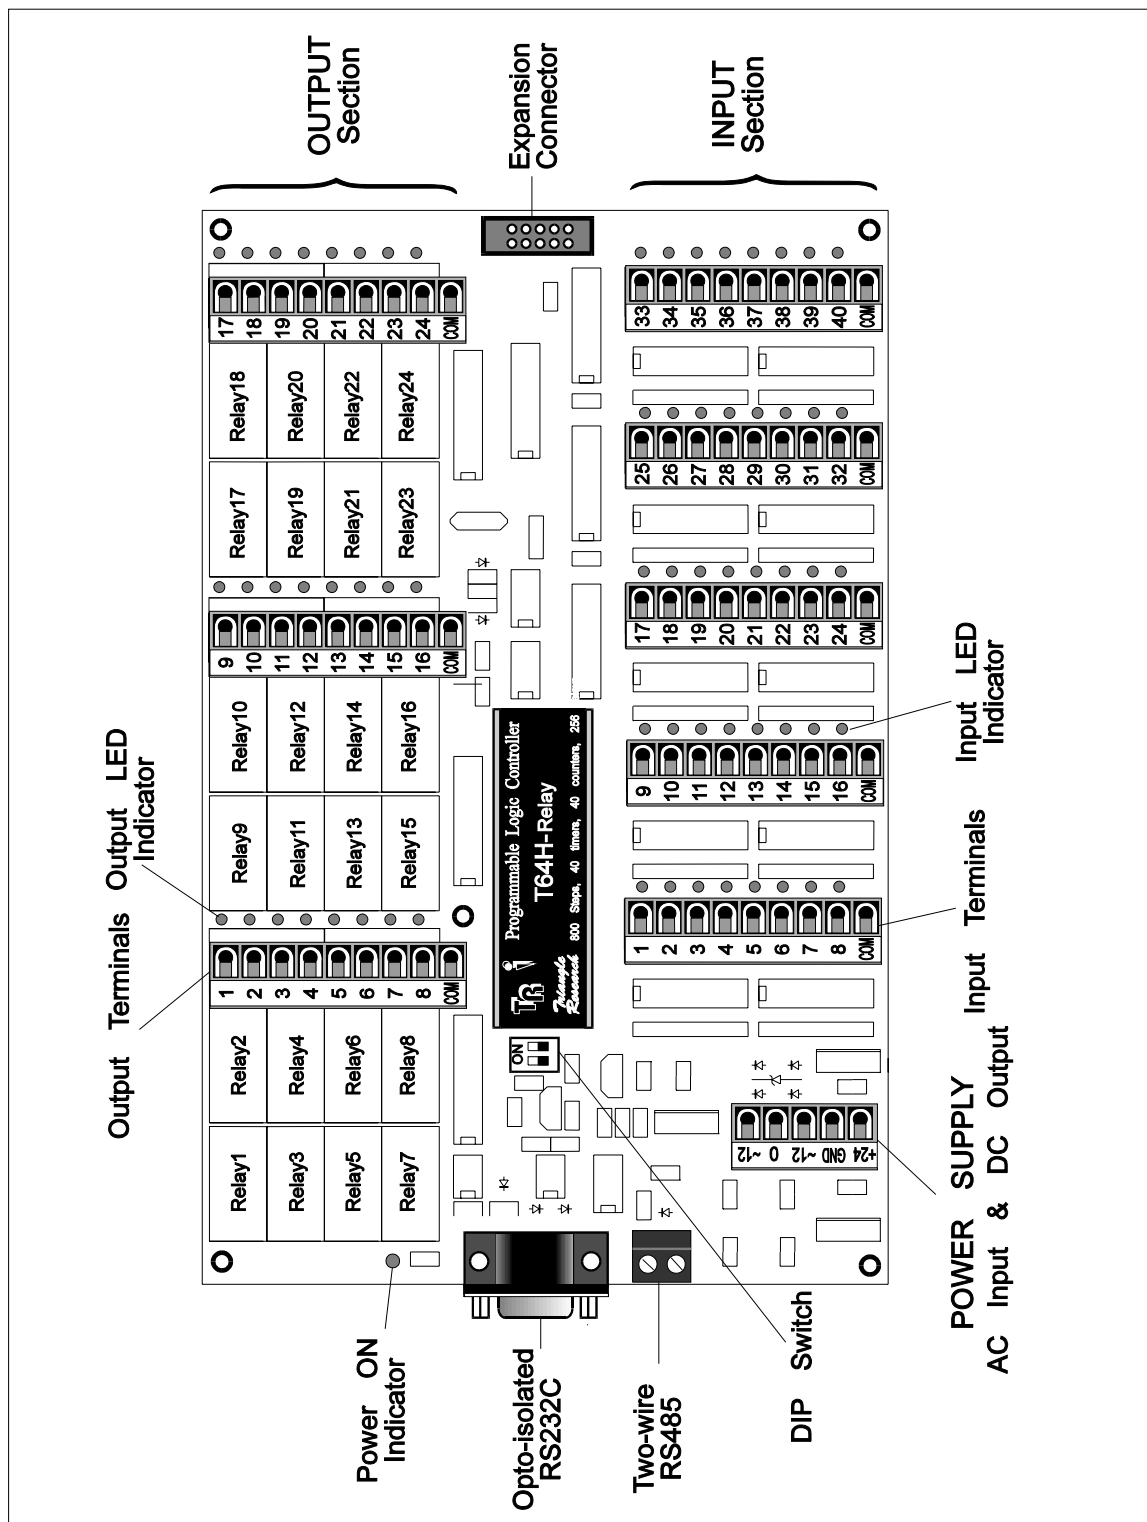

Figure 3 - T64H-Relay Programmable Controller
The highly compact T64H-RELAY controller can be easily installed in many plastic or metal enclosures. There are 5 mounting holes on the controller board (see Figure 3 on next page), and you only need to use 5 PCB standoffs to support the controller and to fasten it to a console box.
- 3. Input Units** - There are a total of 40 physical inputs (divided into 5 blocks of 8 inputs each, see Figure 3) in the basic T64H-RELAY. These inputs are numbered from 1 to 40. These numbers correspond directly to the first 40 entries in TRiLOGI's™ Input Table. All the inputs of the T64H-RELAY employ AC opto-isolators and they can be connected to either PNP or NPN type sensors. Every 8 inputs are connected to a separate COMMON point. With expansion board, the T64H-Relay PLC may be expanded up to 72 inputs in the near future.
T64H-Relay allows two computers to simultaneously communicate with the PLC. (See H-Series User's Manual for details on communication protocol). One using the RS232C and the other using the RS485 interface. The RS232C interface is provided via a DB9 female connector and the RS485 interface is provided via a two-pin screw terminal block; both are situated along the left edge of the controller board (See Figure 3).